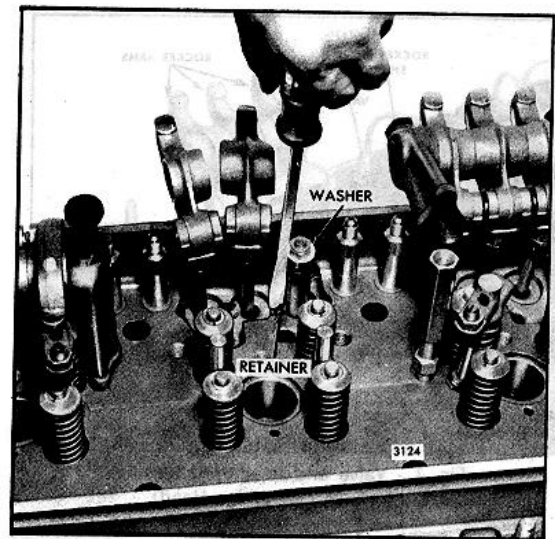

Fig. 3. Removing Push Rod from Upper Side of Cylinder Head using Tool J 3092-01
5. Remove the spring seat retainer from the groove in the cylinder head (Fig. 3).